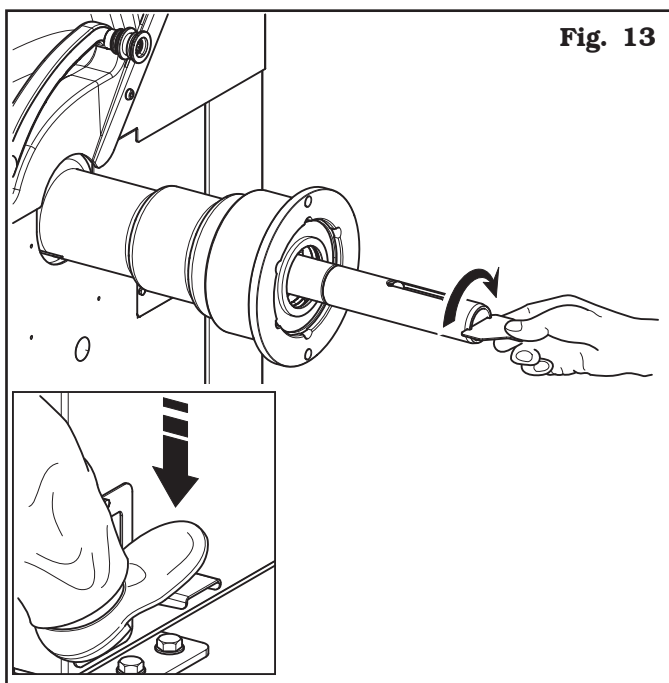

Fig. 13
5. Press the brake pedal and at the same time block the external mandrel using the wrench supplied (**Fig. 13**).
- Press the brake pedal and at the same time release the external mandrel by using the wrench provided (**Fig. 13**).